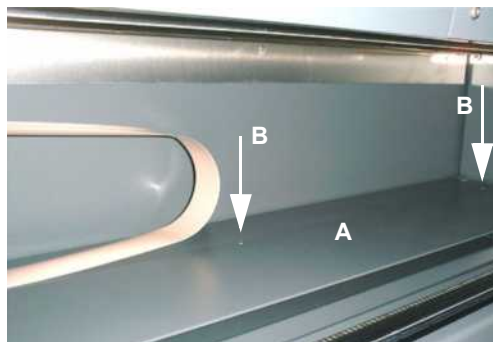
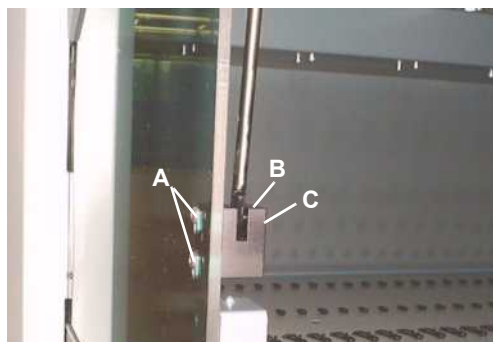

Fig. 8-3 X-bay cover
Fig. 8-4 Gas spring lower fixing
- Not visible on the picture: X-bay cover (cover above the X-motor, see Fig. 8-3, Fig. 8-3).
- Before tightening the screws (A in Fig. 8-4, Fig. 8-3), pretension the gas spring by compressing it by approx. 2 mm (0.08 in.).